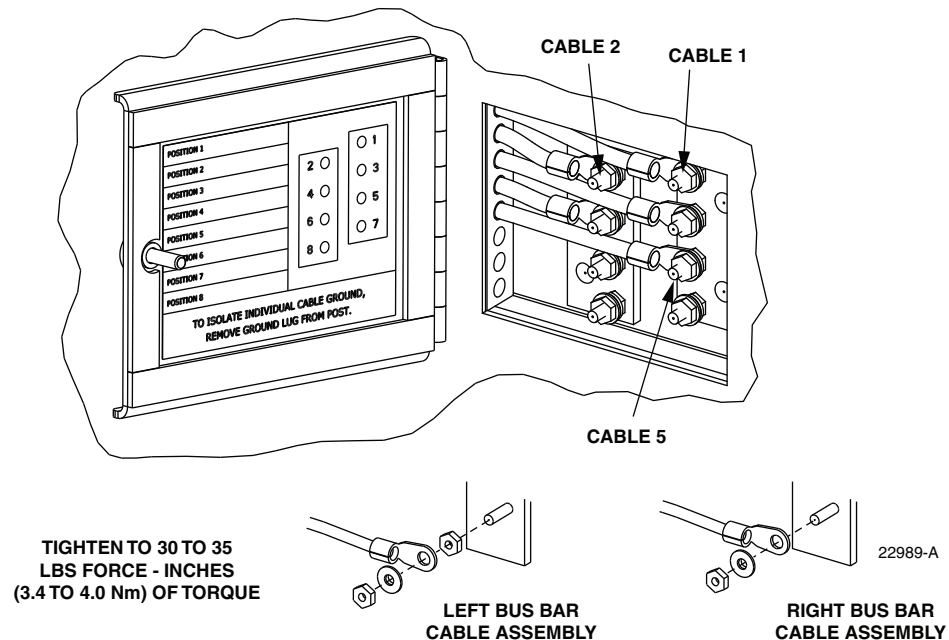

Figure 31. Cable Grounding System - Exterior View
4. Open the grounding system access cover located at the rear side of the cabinet as shown in Figure 31.